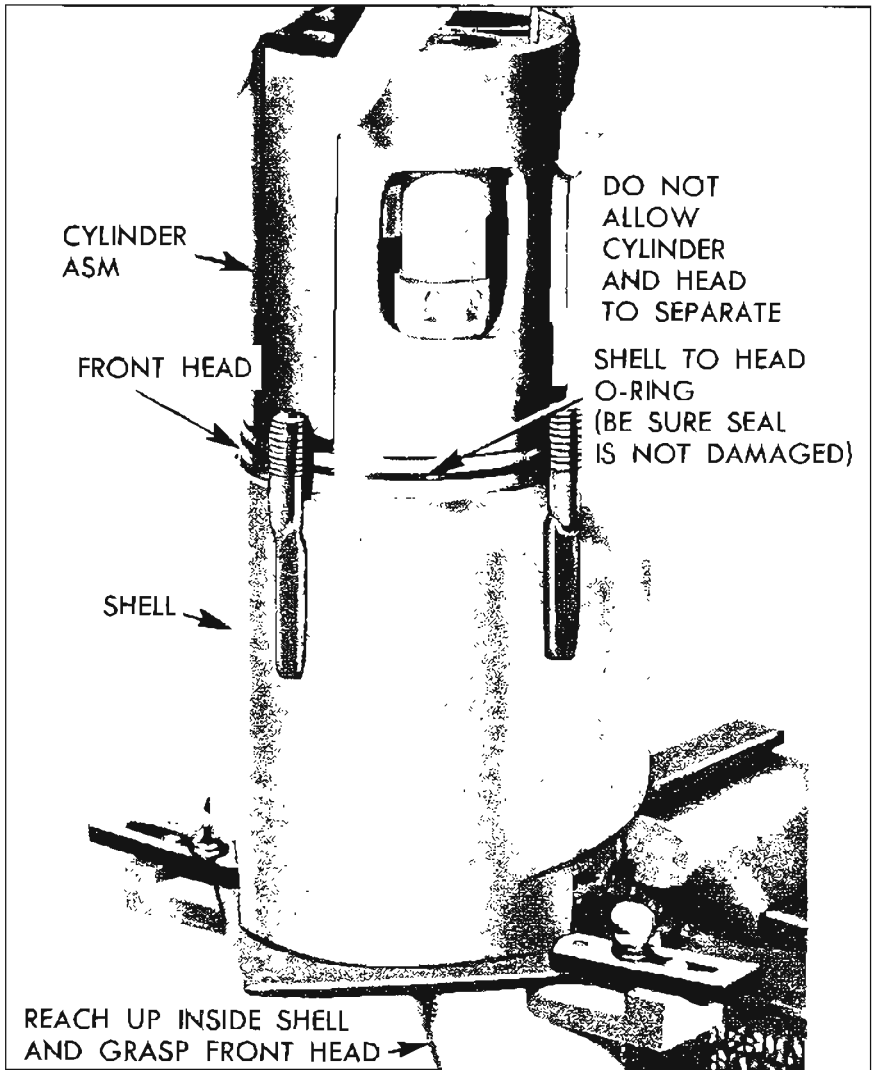

Figure 11-102—Installing Cylinder Assembly and Front Head in Shell
49. Reassemble as a unit cylinder assembly and front head into the shell (see Figure 11-102).